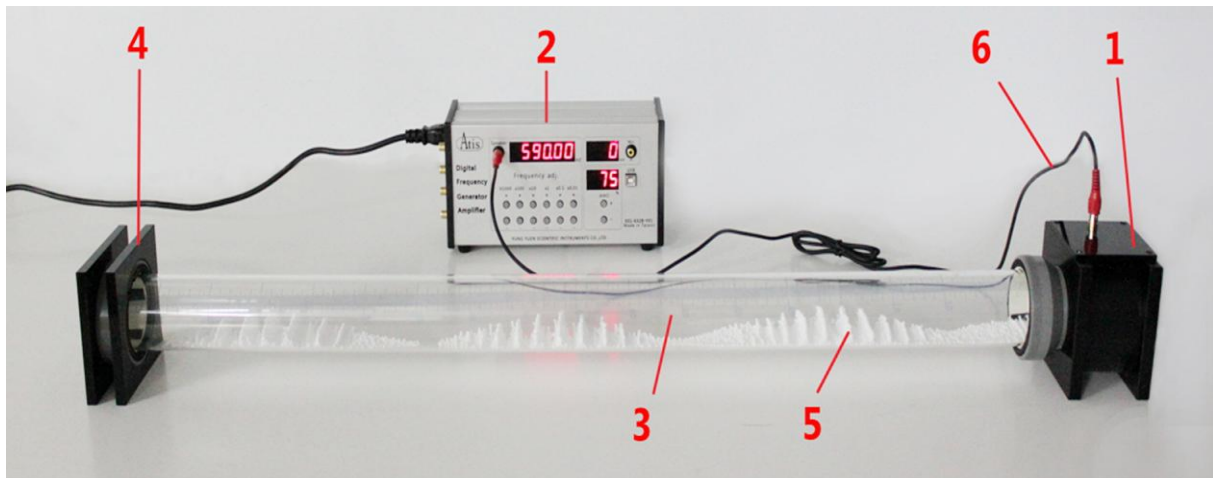
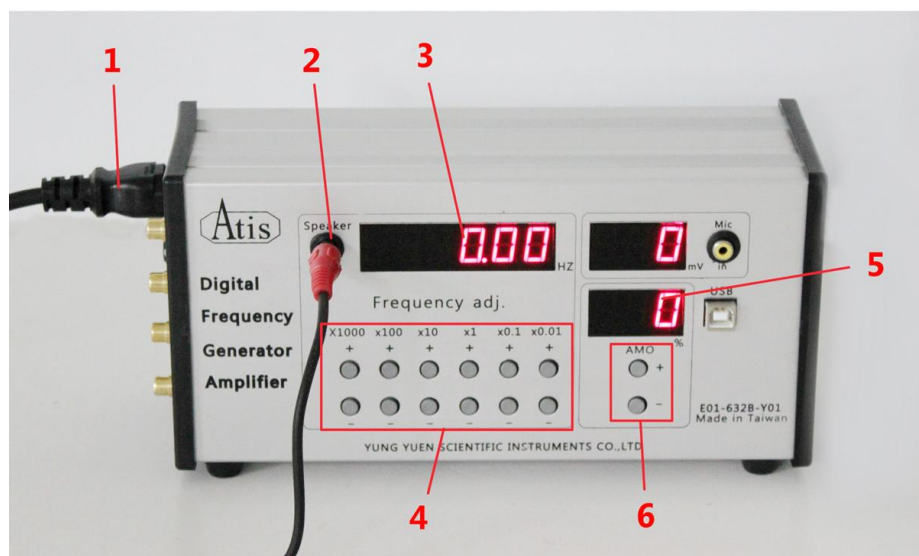

Figure 3 Experimental setup
Figure 4 Digital frequency generator amplifier
1. The experiment set up is shown in **Figure 3**. Connect the wave generator with resonance tube. Put Styrofoam balls into the tube. Before the experiment, shake the tube so balls can be uniformly distributed. Connect the holder with the end of the tube. Connect the wave generator to the AV wire.
2. When the wave generator is connected to the power, adjust the amplitude to 40-50% based on the instruction of **Figure 4** (adjust the amplitude according to the need of the observer). Increase the frequency gradually. Styrofoam balls will produce the standing wave like **Figure 3**.